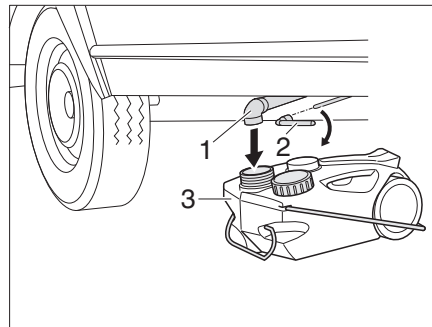

Fig. 140 Waste water tank, underfloor
- Place the mobile waste water tank (Fig. 140,3) under the waste water piping (Fig. 140,1).
- Place the socket spanner (Fig. 140,2) on the square bolt.